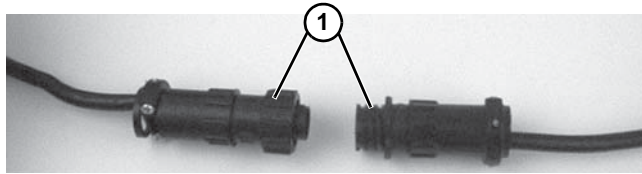

Figure 26
3. For DC variable speed motor, unplug motor cord at disconnect (**Figure 26, item 1**).